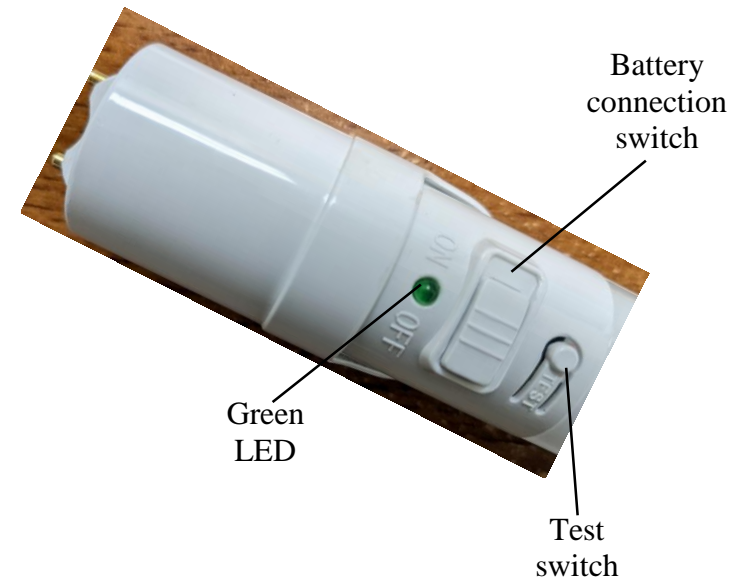

Fig. 2
7. **IMPORTANT:** Turn “on” a battery connection switch (see Fig. 2) on an Aleddra’s EM G3PLUS LED T8 lamp. The battery connection switch comes with a default “off” to prevent the built-in battery from being depleted and damaged.
12. **Manual test and system reset:** Allow the lamp on the fixture for 24 hours. Press a test switch (TS) once within 3 seconds (see Fig. 2), the lamp will test for 30 sec. Press TS twice within 3 sec, the lamp will test for 90 min. If a built-in battery voltage is not sufficient, the green LED will flicker on for 1 sec and then off for 0.3 sec, continuing for 15 sec, to indicate that the manual test is prohibited. During the manual tests, press TS once to terminate. The original schedules of the preprogrammed auto-test will not be changed. If not responding, press and hold TS for 5 seconds to reset.